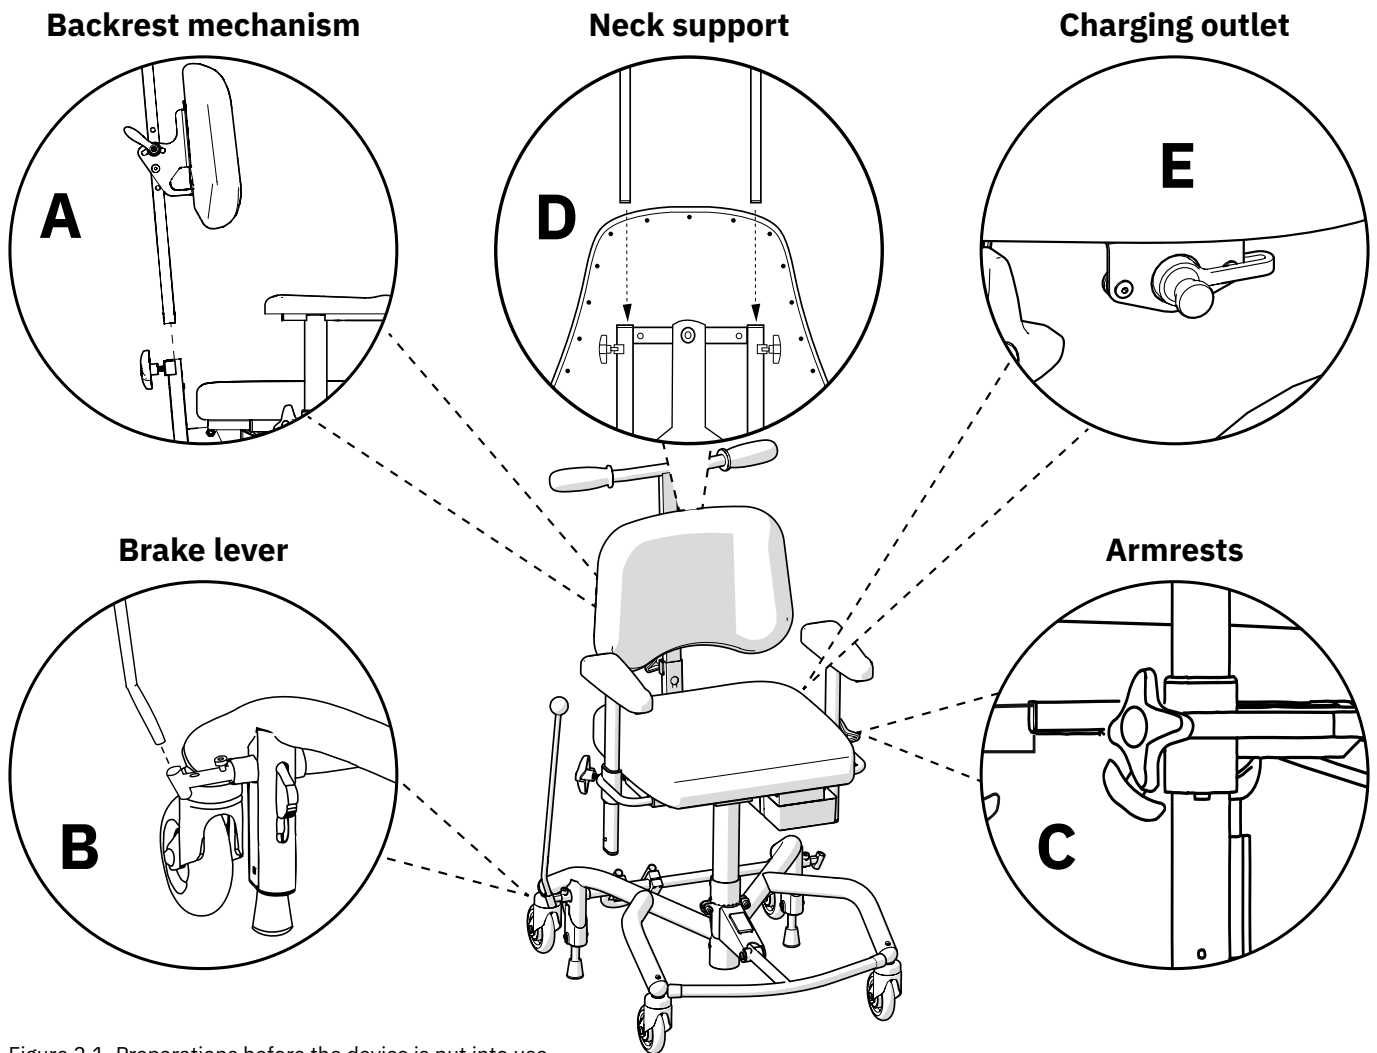

Figure 2.1. Preparations before the device is put into use.
For models with back rest, insert the back rest pole into the back rest mechanism (B) and adjust to the desired height, see Figure 2.1. Tighten all levers (A).
We recommend that the brake lever not be mounted if you intend to use the foot brake. If you intend to use the handbrake function, mount the brake lever as follows: Insert the brake lever into the brake lever bracket (A), see Figure 2.1. The brake lever can be placed on the right or left side.
Loosen the armrest controls (C) and set the desired height and width levels, see Figure 2.1. Tighten all controls (C).
If the device is supplied with a neck support, insert the neck support mechanism into the backrest bracket (D) and set the desired height level, see Figure 2.1. Tighten all controls (D).
Before initial use, activate and/or charge the battery. This is done by connecting the battery charger to the device's charging outlet and to a wall outlet (E), see Figure 2.1. The charging outlet can be placed in different places on the device. The device is usually delivered with the charging outlet mounted at the rear edge under the seat.